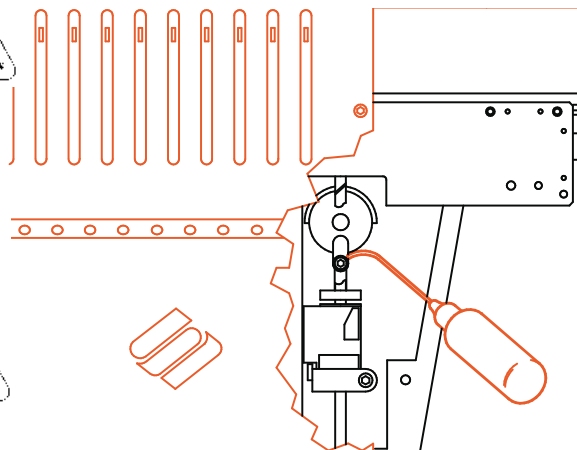

Figure 5-5
2. Figure 5-5 shows the lubrication hole inside the machine. To access this hole, insert the oiler through the hole with the red bushing on the front of the panel. Use a flashlight if needed.